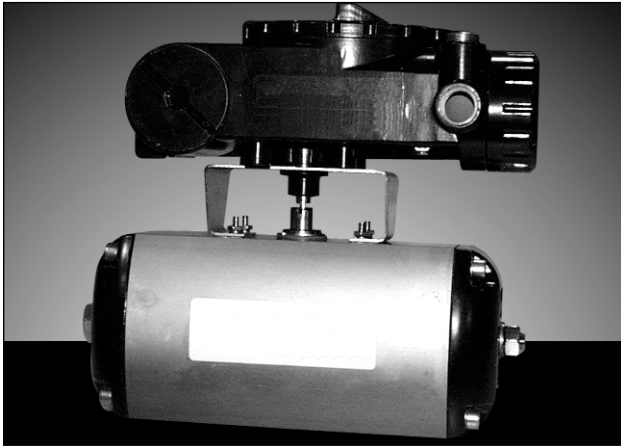

Figure 5: Positioner on Mounting Bracket
5. Making sure positioner shaft rotation matches actuator shaft rotation, place positioner on mounting bracket (Figure 5). Make sure shafts engage. **Do not insert fasteners into positioner at this time.**